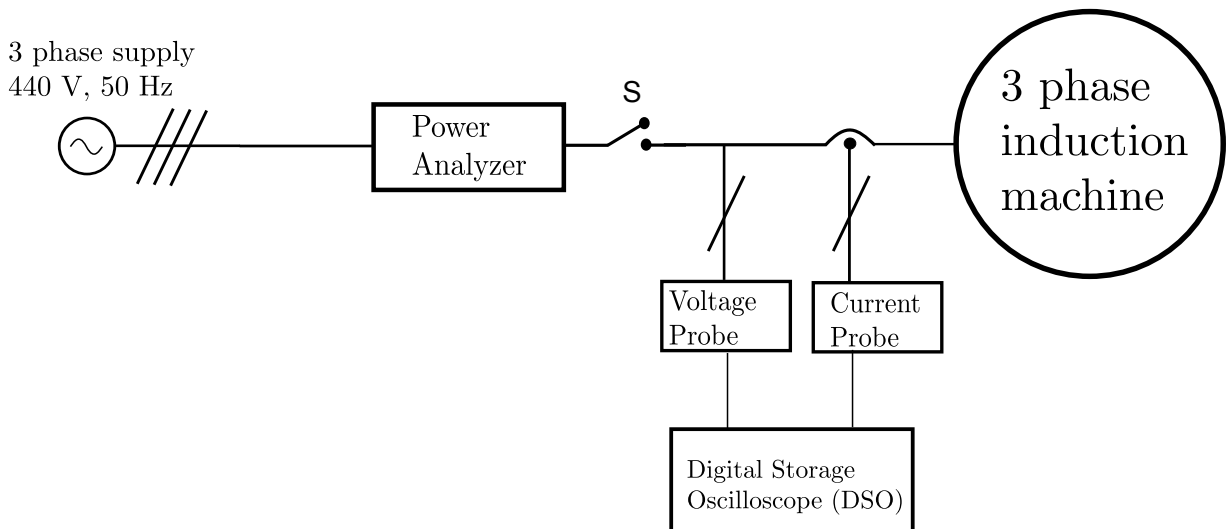

Figure 1: Inrush current in induction motor: schematic connection diagram
1. Connect the circuit as shown in Fig. 1.